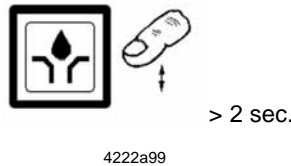

Fig. 24 Pushbutton for additional lubrication cycle
- ➔ is triggered via the button (Fig. 24). Press the button for **2 seconds**.